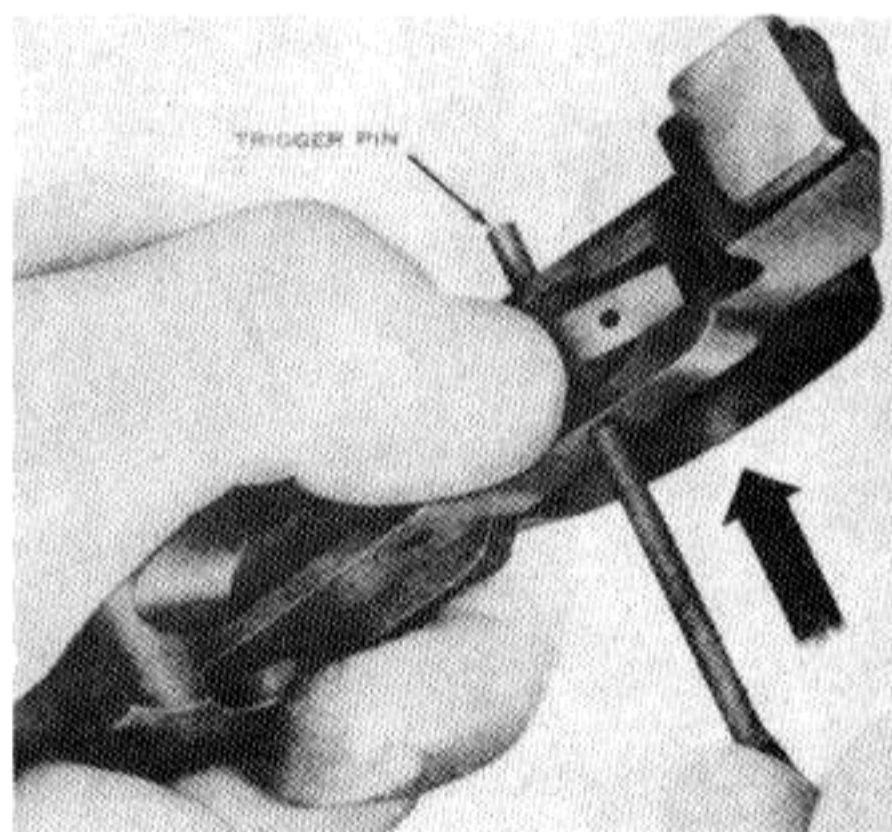

Figure 21. Removing the trigger pin.
*c.* Hold the trigger housing group in the left hand as shown in Figure 21, with the thumb pressing down on the sear. Using the small end of the operating slide spring guide, drift out the trigger pin from right to left. Turn the trigger housing group upside down and allow the sear and sear spring to fall out.